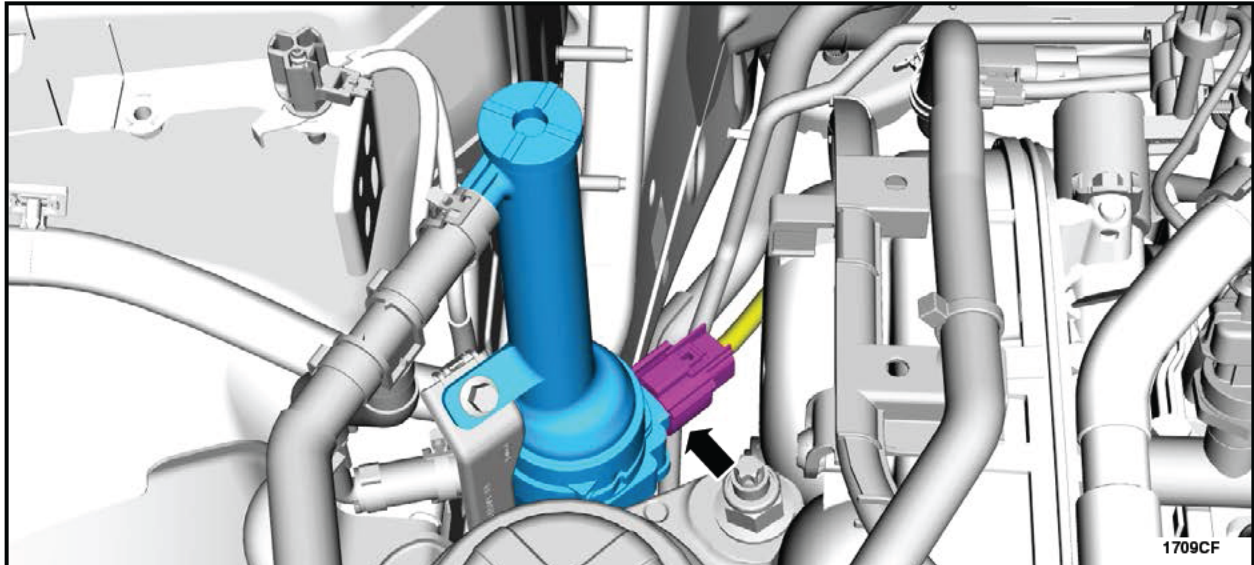

FIGURE J5
5. Connect coolant stand-pipe wiring harness to the coolant stand-pipe. See Figure J5.